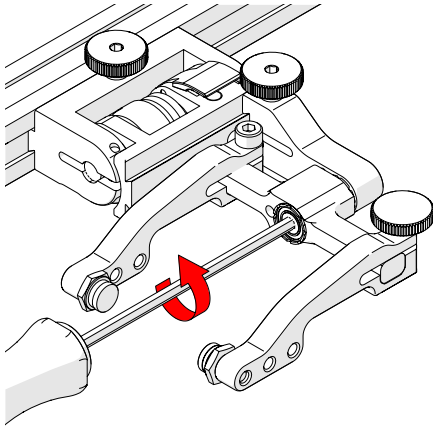

Fig. 146 - Unscrew yoke pivot screw
1. Unscrew the yoke from the swing arm (Fig. 146).